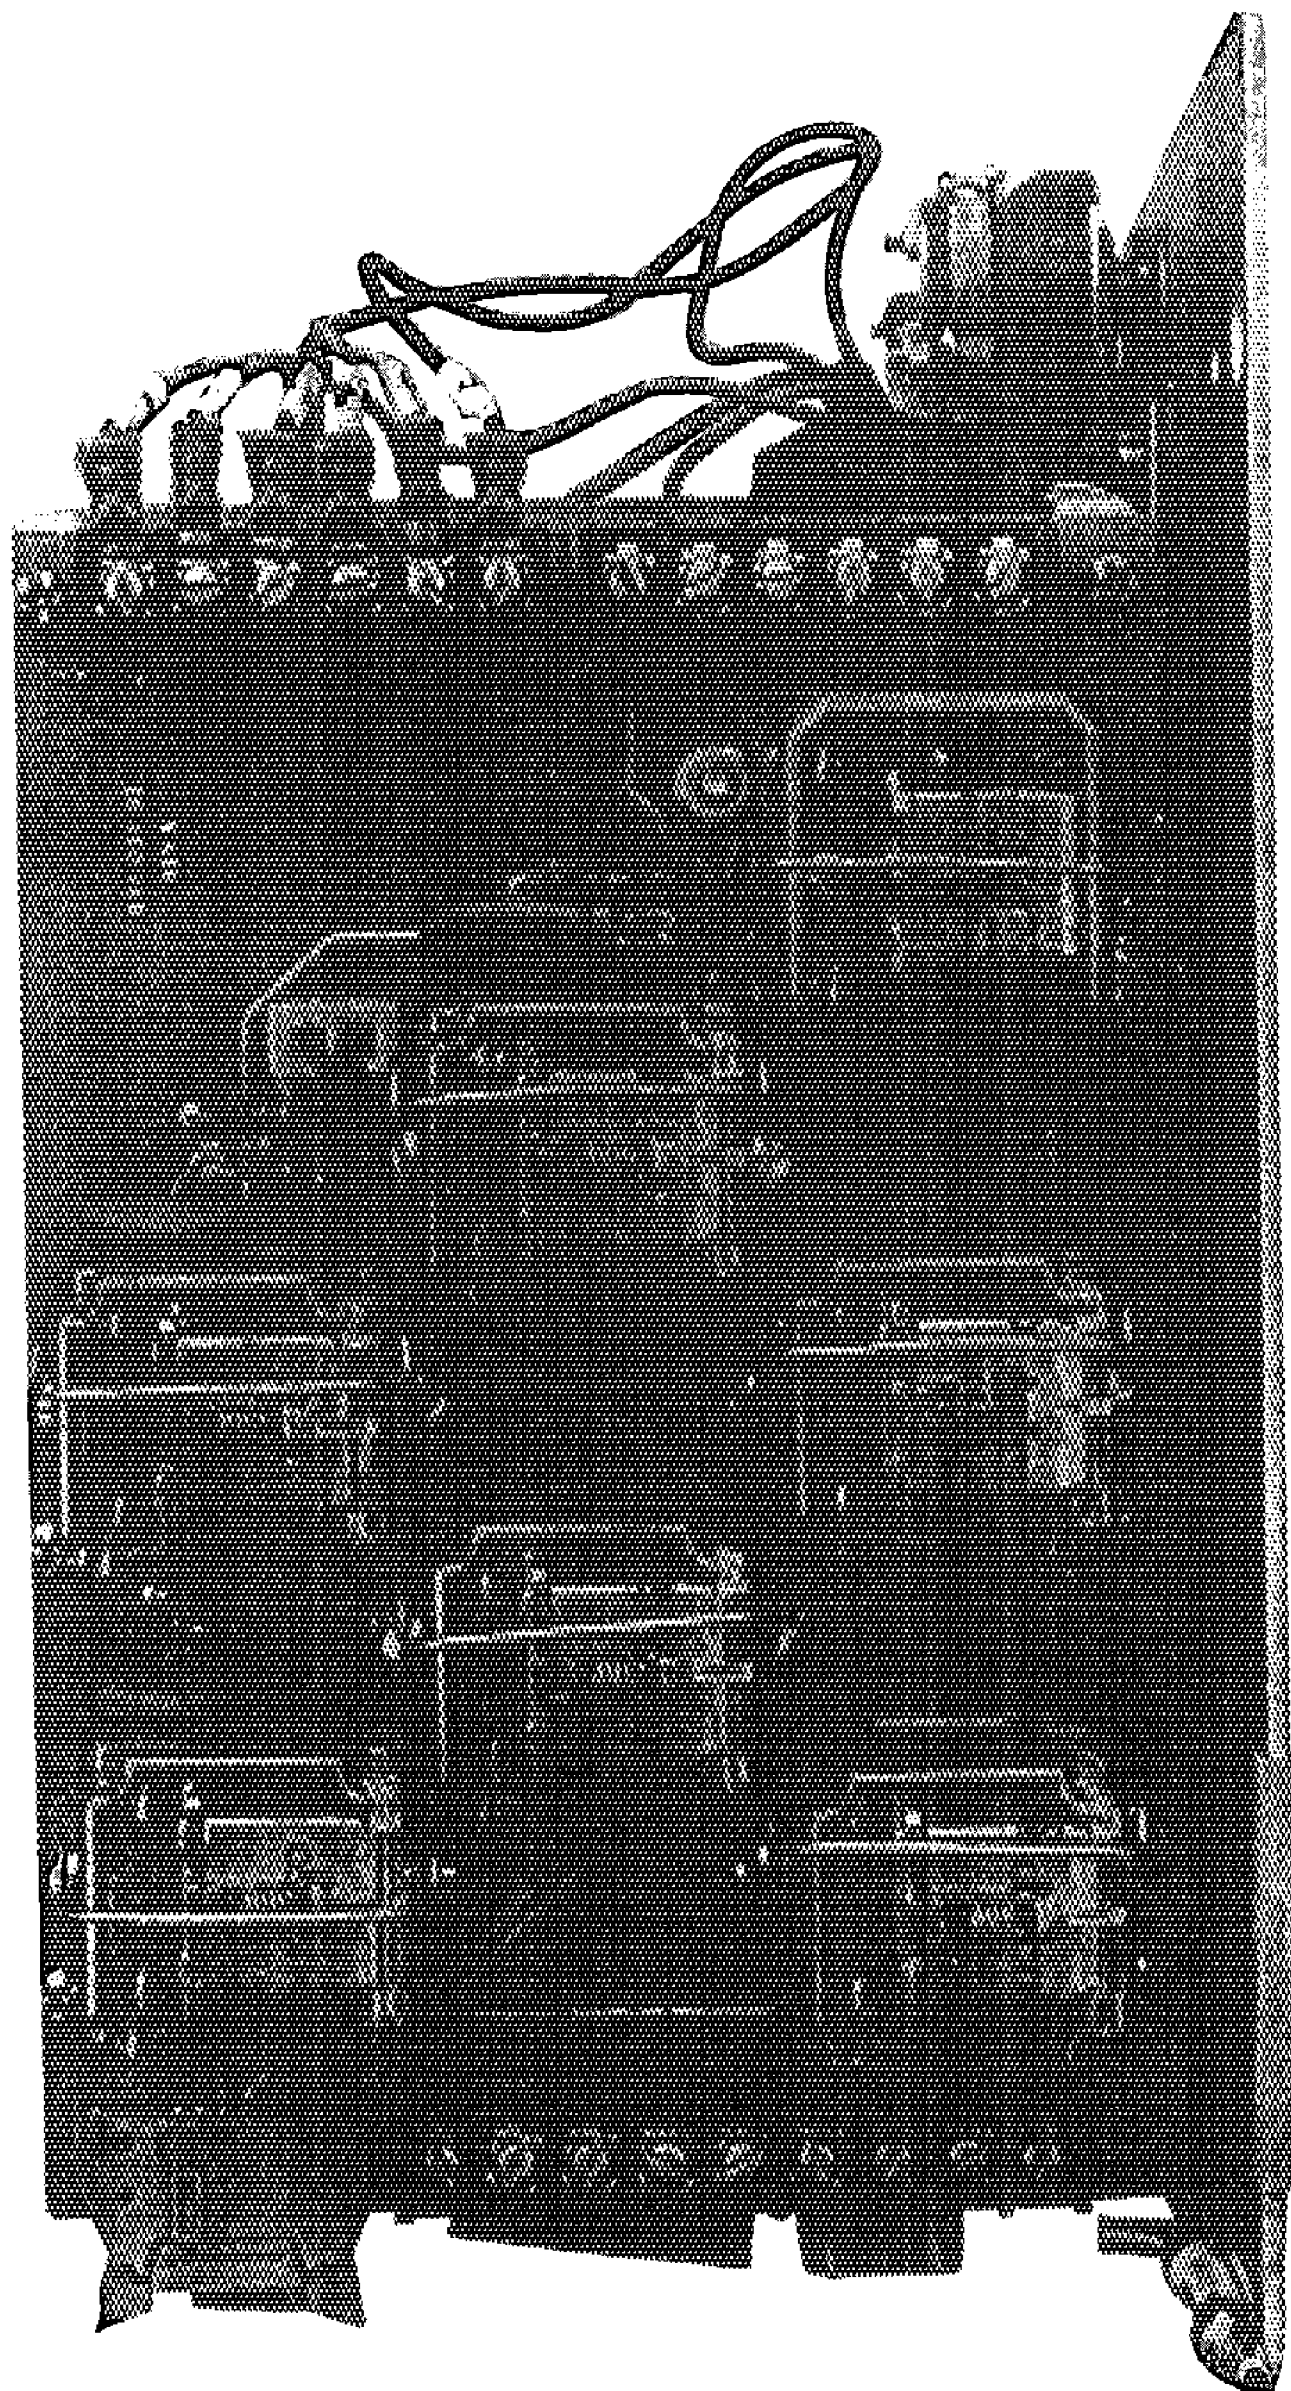

FIG. 5
- (1) Turn pots R3 and R4 fully counterclockwise.
- (2) Connect milliammeter to TB-1 terminals 5 (black lead) and 4 (red lead) for return air, and TB-1 terminals 2 (black lead) and 1 (red lead) for supply air. See Fig. 5.
- (3) Adjust R6 (return air) and/or R1 (supply air) until the milliammeter reads -2.00 milliamps.
- (4) Connect RTD simulator(s) to TB-1 terminals 5 and 4 (return air) and 2 and 1 (supply air).
- (5) Adjust the simulator (s) to 882.10 ohms (-29.9°C), thumbwheel setpoint to -29.9°C .
- (6) With voltmeter red lead on TP5 (return air), black lead on TPC (TP5) of the power supply/display driver board, adjust R5 until voltmeter reads 0.000 VDC.
- (7) With voltmeter red lead on TP3, adjust R2 to read 0.000 VDC.
- (8) Adjust simulator (s) to 1116.30 ohms ($+29.9^{\circ}\text{C}$), thumbwheel setpoint to $+29.9^{\circ}\text{C}$.
- (9) With red lead on TP5, adjust R4 to read $+10.000$ VDC.
- (10) With red lead on TP3, adjust R3 to read $+10.000$ VDC.
- (11) Repeat Steps 5 through 10 until all readings are correct.
- (12) Adjust simulator (s) to 1000.00 ohms (0°C).